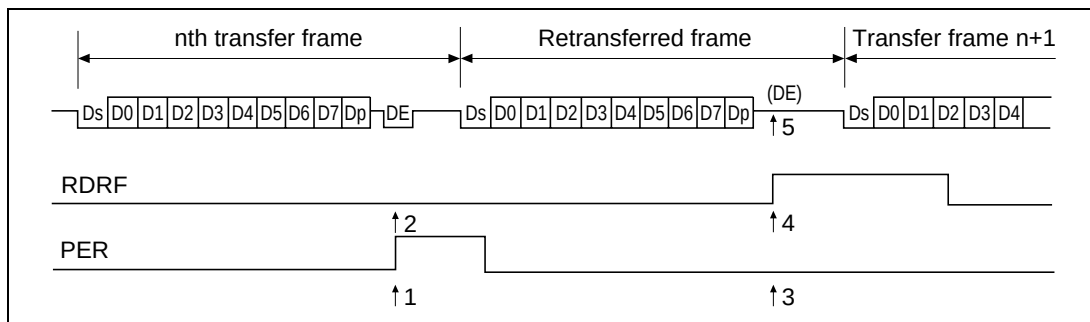

**Figure 17.11 Retransfer Operation in SCI Receive Mode**
**Retransfer Operation when SCI is in Receive Mode:** Figure 17.11 illustrates the retransfer operation when the SCI is in receive mode.